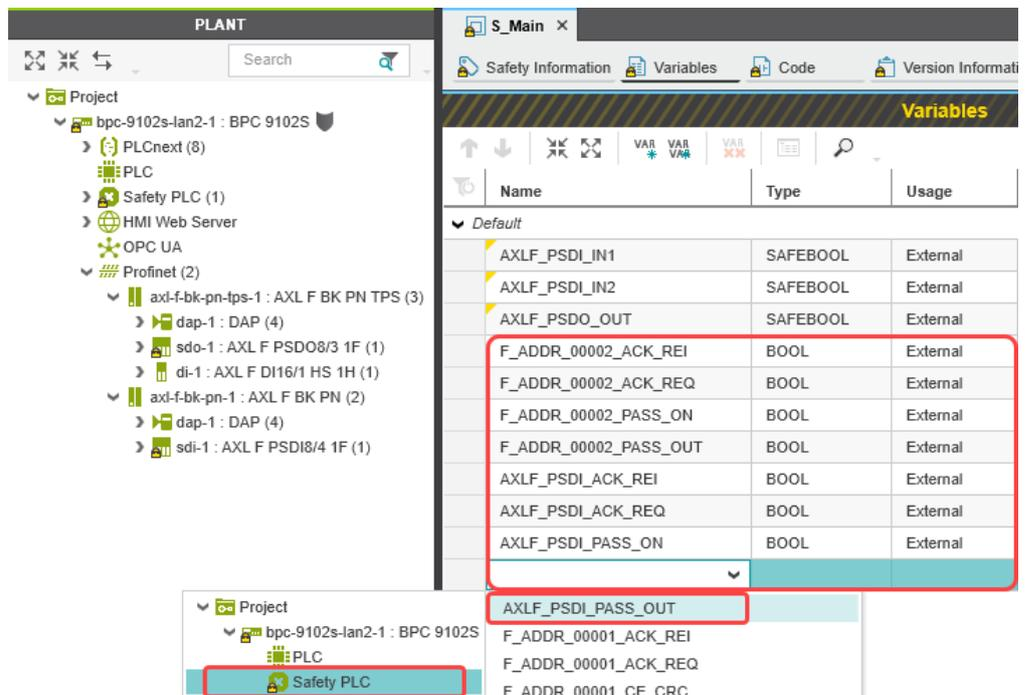

Figure 6-42 Selecting management/diagnostic variables
- Open the selection list by clicking on the arrow in the “Name” field (see Figure 6-42).
- Repeat this step for all the management/diagnostic variables and exchange variables shown in Figure 6-42.